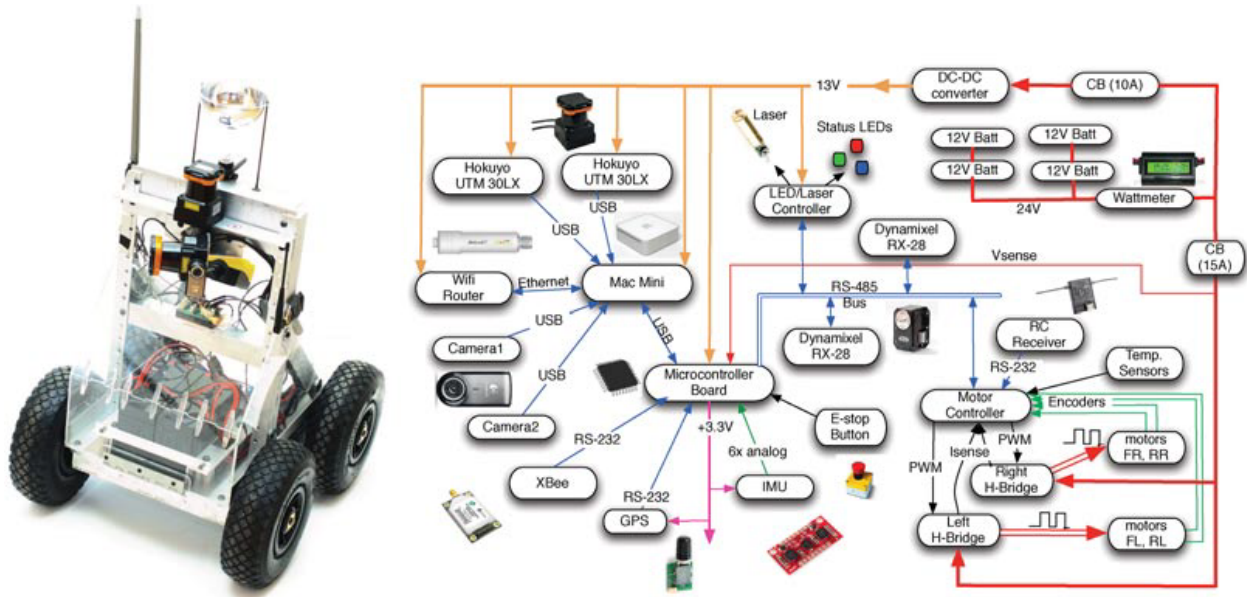

Figure 1: Differential-drive robot, equipped with encoders, IMU, 2-D LIDAR scanner, and an RGBD camera.
- **Robot:** A description of the differential-drive robot is provided in `docs/RobotConfiguration.pdf`. Fig. 1 shows a schematic of our robot. Even though the description file says that the origin of the robot body frame is at the back axle, it is arbitrary and you can choose your own origin. Using the geometric center of the robot body might yield better results because the differential-drive motion model assumes that the robot is rotating around its center.